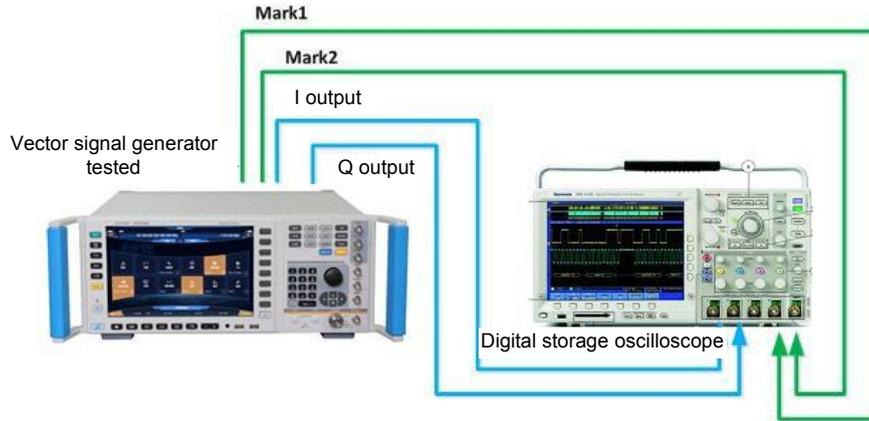

Fig.3.20 Trigger Test
##### Step 1. Connect the instrument as shown in Fig.3.20.
**Step 1. Connect the instrument as shown in Fig.3.20.**
#### Step 1. Connect the instrument as shown in Fig.3.20.